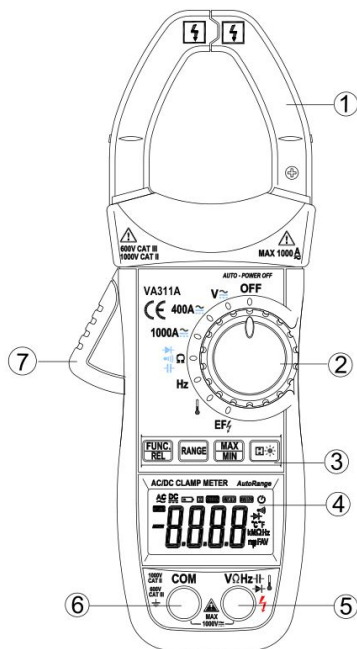

Figure 2-1
**The front panel is shown as in Figure 2-1,